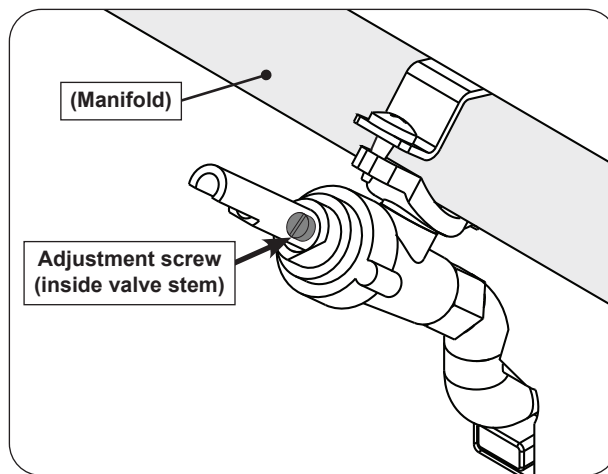

Fig. 44-1 Valve adjustment screw location
3. Locate the FLATHEAD adjustment screw found inside the valve stem (see Fig. 44-1).